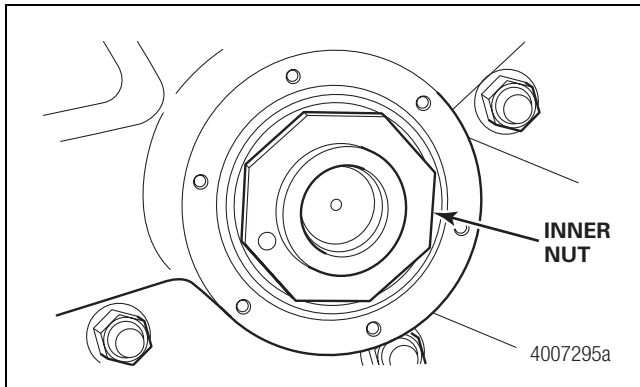

Figure 9
- E. Use a 3-3/4-inch socket to remove the inner adjusting nut. Figure 9.